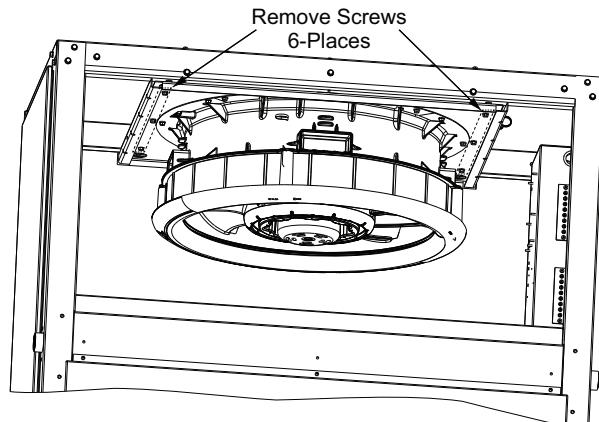

Fig. 30 – Remove Screws from Fan Deck Assembly
3. Remove six screws from the fan deck. See Fig. 30.